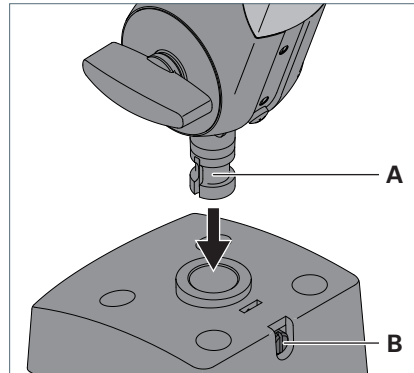

Fig. 2: Mounting the luminaire to the fastening element.
- Insert the stud **A** on the luminaire column into the opening of the fastening element, see Fig. 2.
- Tighten the screw **B** to fix the column, see Fig. 2.